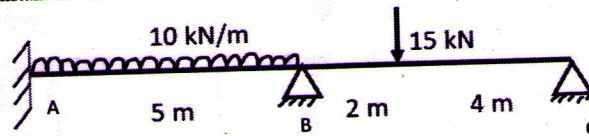

Figure 10
- b) Analyse the structure shown in Figure 10 by direct stiffness method. Assume constant  $EI$  for all the members. (15)